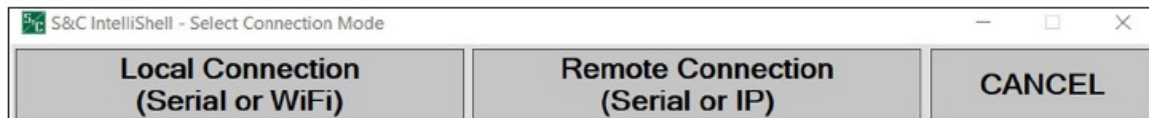

Figure 12. The S&C Electric IntelliShell—Local Communication Setup dialog box.
- **STEP 1.** Start the IntelliLink software and select between a local or remote connection. See Figure 12.